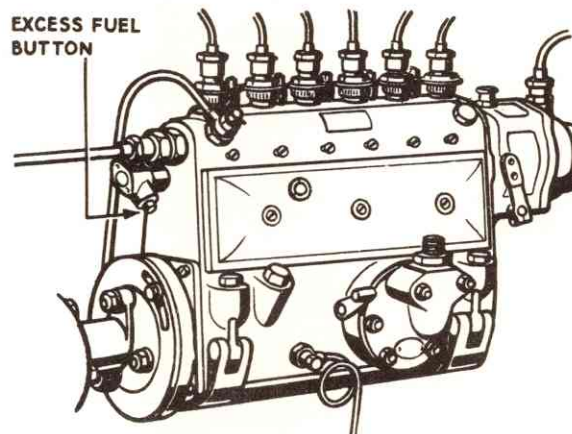
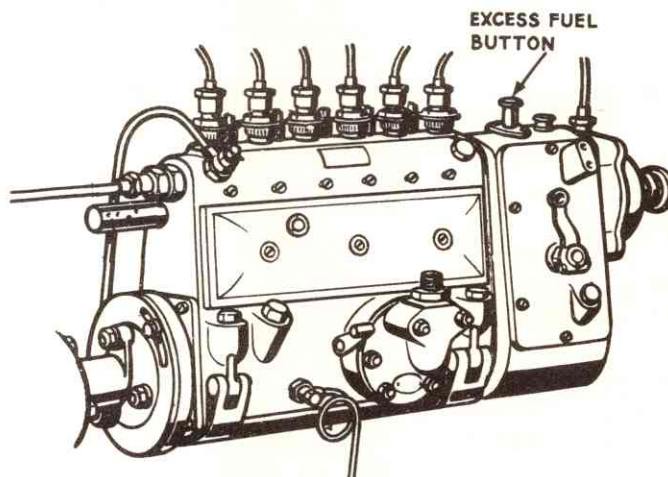

Fig. 3. Excess Fuel Control - Type 350 Engine
Fig. 4. Excess Fuel Control -- Type 450, 600 and 680 Engines
- b. Depress the excess fuel button on the injection pump. (type 350 units) see Fig 3, or the governor casing (type 450, 600 and 680 units), see Fig 4.